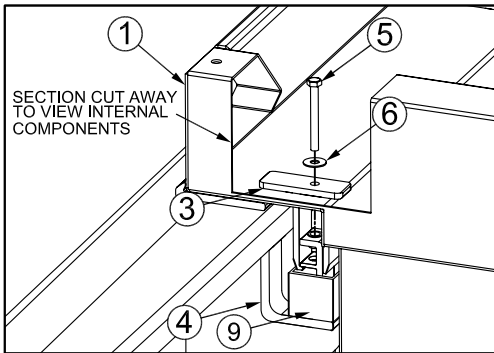

Fig. 14
16. Insert M6 bolt (#5) with M6 flat washer (#6) through J-hook receiver (#3) and thread into J-hook (#4). (See Fig. 14)